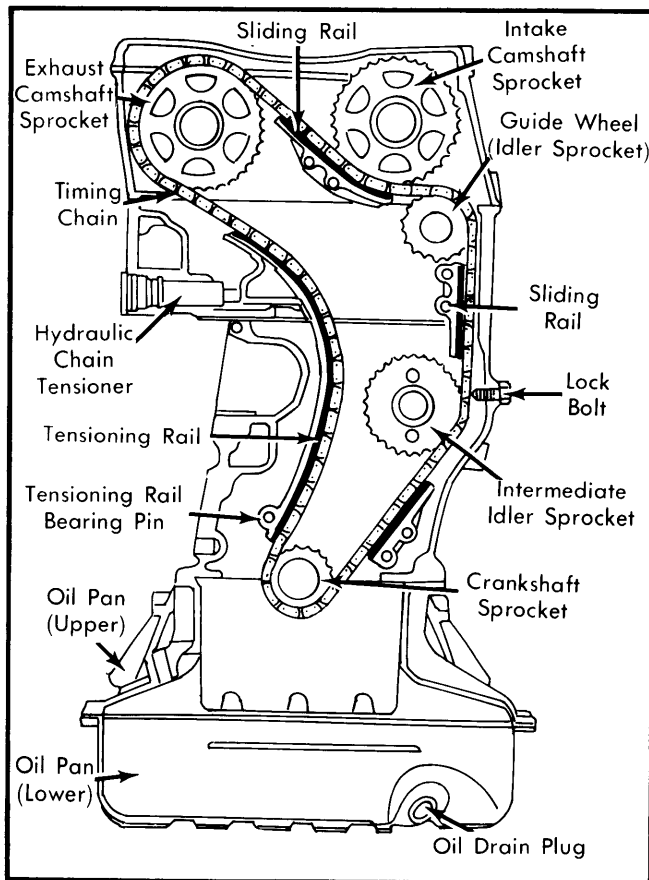

**Fig. 1 Cylinder Head Tightening Sequence (Remove in Reverse Sequence)**
2) Lift cylinder head and carefully remove wooden pieces. Lower head carefully, ensuring that front and rear dowels are properly engaged. Insert lubricated head bolts and tighten in 2 stages according to sequence shown in Fig. 1. Insert and tighten 8 mm bolts in chain box with Allen wrench.